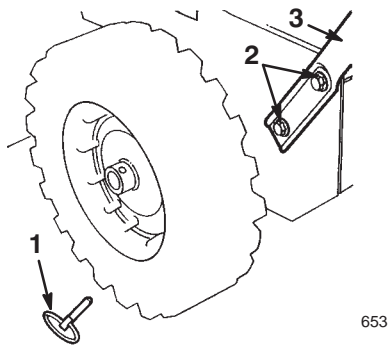

Figure 2
2. Remove the axle pins from both wheels (Fig. 2) and slide the wheels outward on the axle approximately one inch (2.5 centimeters).
4. Position the left side of the handle assembly against the left side of the snowthrower, align the handle mount holes with the holes in the side plate, and secure the left side of the handle assembly with two bolts and curved washers until they are finger tight (Fig. 2).